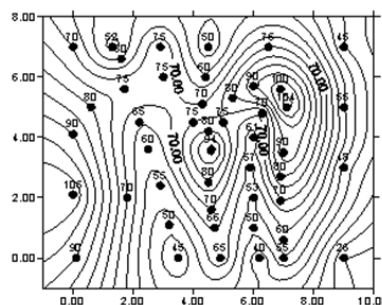

Figure 1.147 – You can add labels to post maps using post map properties dialog.
7. Click OK and the overlay is redrawn with labels on each of the data points, fig. 1.147.